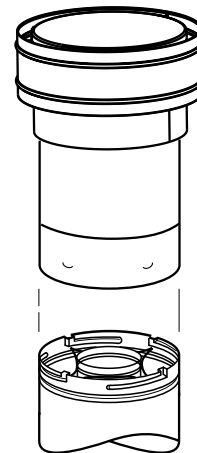

Figure 22
L. Install the vertical termination - The final step involves installation of the SV4.5CGV-1 Vertical Termination. Extend the vent sections to the height as shown in the "Vertical vent termination section" on **page 6**. The SV4.5CGV-1 Vertical Termination (**Figure 22**) installs in the exact same fashion as any other **Secure Vent** section. Align the termination over the end of the previously installed section, adjusting the radial alignment until the four locking dimples of the termination are aligned with the inlets of the four incline channels of the last vent section. Push the termination down until it fully engages, then twist the termination clockwise running the dimples down and along the incline channels until they seat at the end of the channels.